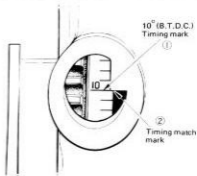

Fig. 8-14
- (1) Turn over crankshaft in normal direction (clockwise as viewed from front side) to bring timing mark 10° ① (on flywheel) to the mark ② provided on transmission case, making the two marks line up. See Fig. 8-14.